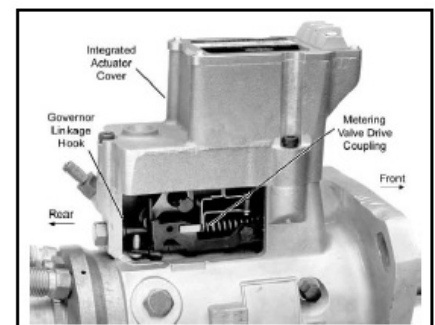

Figure 5
4. Carefully slide the integrated actuator cover toward the rear of the pump until the horseshoe portion of the metering valve drive coupling contacts the pump's governor linkage hook as shown in Figure 5. Once contact has been made, continue moving the integrated actuator cover in the same direction until the mounting holes between the integrated actuator cover and the pump body are aligned.